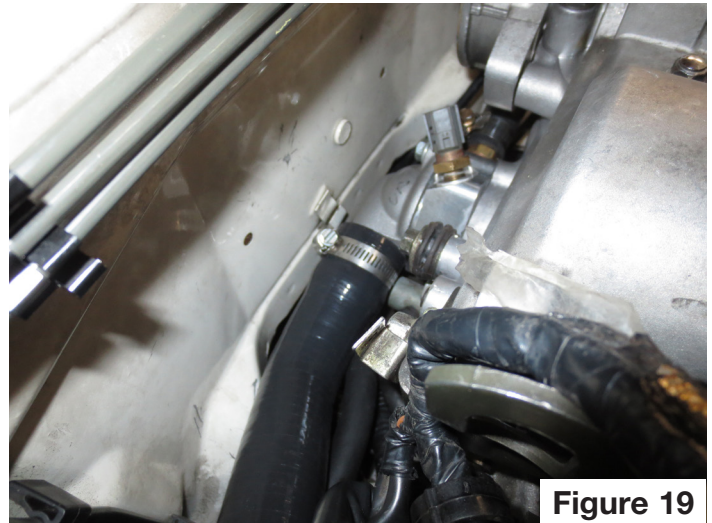

Figure 19
- 19) Install the heater hose to the heater barb on the spacer. Install the reroute radiator hose in the newly installed thermostat outlet and route hose to the radiator. **Figure 19.**